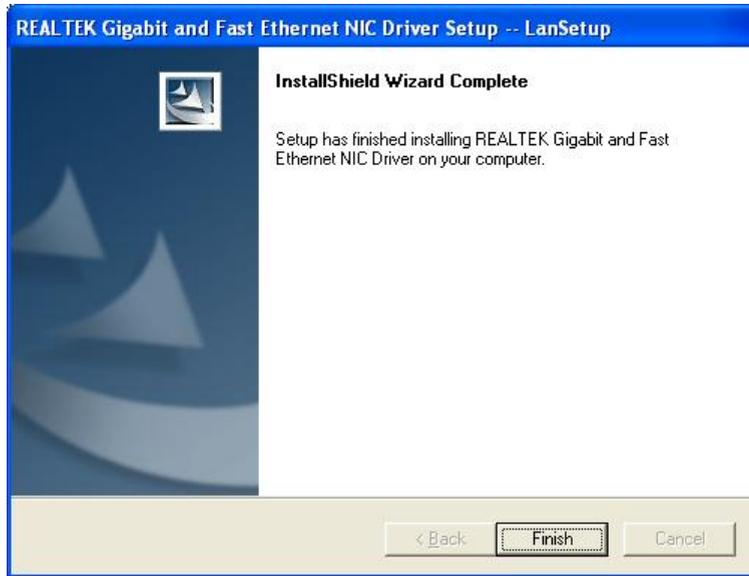

Figure 7-22: LAN Driver Installation Complete
Step 5: To continue installing click "**Next.**" The driver is installed and a confirmation screen at the end of the installation appears. (See **Figure 7-22**)